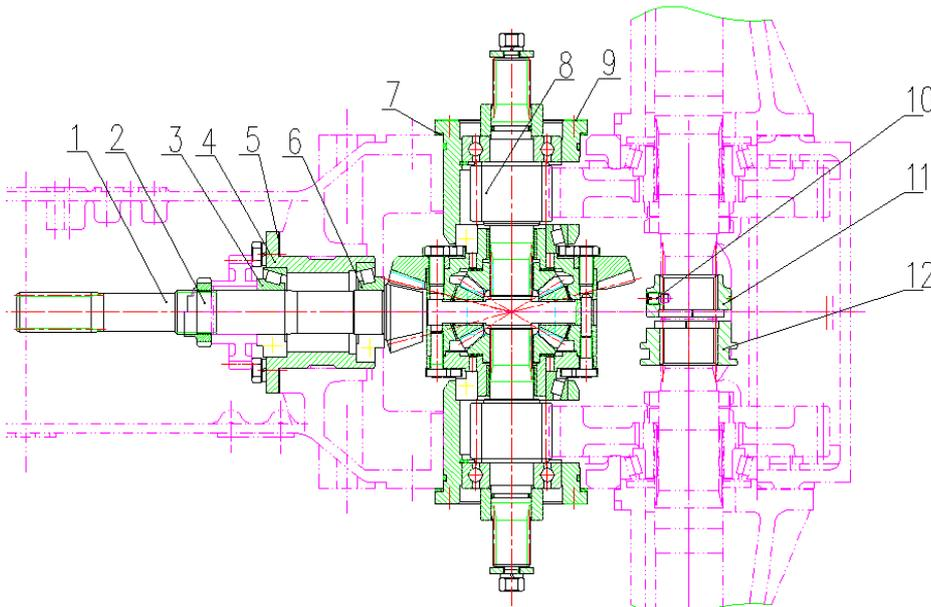

Fig.5-6 Tapered bearing preload adjustment
5.5.1 Tapered bearing preload adjustment (see Fig. 5-6)